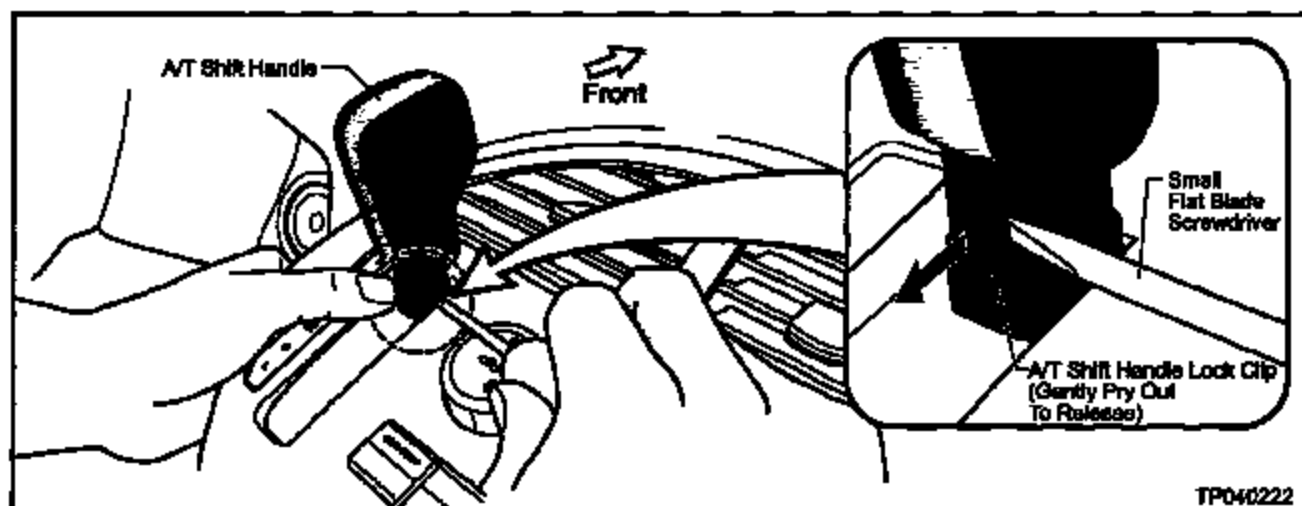

Figure C2
- b. Use a small flat blade screwdriver to carefully release the A/T Shift Handle Lock Clip (see Figure C2).